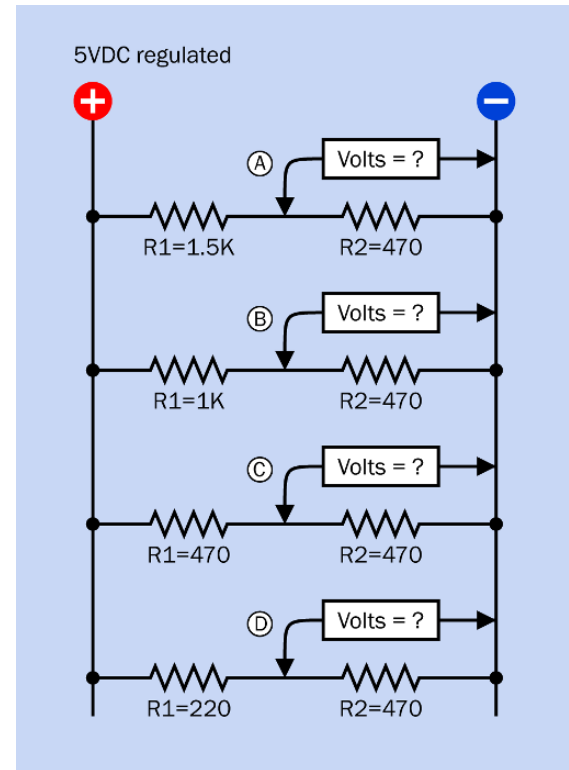

Figure 2-10. The concept of a voltage divider is fundamental in electronics. Make sure that you understand it clearly.
Take a look at Figure 2-10. In this schematic, instead of using a transistor in series with a 470Ω resistor, I've used various other resistors. Can you predict the voltages that will be measured at points A, B, C, and D? This is an experiment that
- R_2 is the value of the resistor (in ohms) on the negative side (as in Figure 2-10).